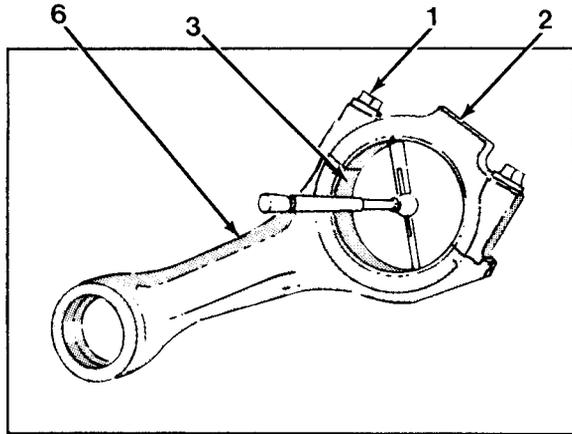
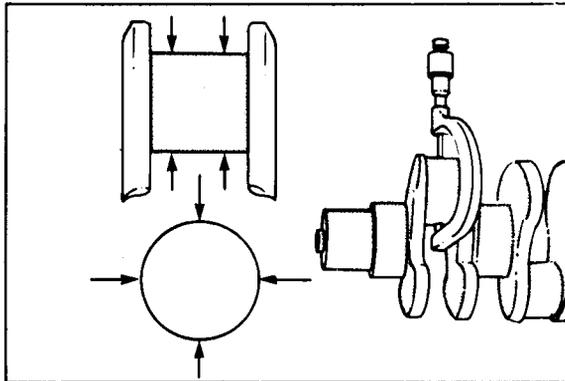

Figure 6-15
Figure 6-16
13. Install two bearing halves (3), connecting rod cap (2) and two connecting rod capscrews (1: on connecting rod (6, Figure 6-15). Torque two connecting rod capscrews (1) to 73 lb-ft (99 N•m).
14. Using an inside micrometer, measure crankshaft bore of connecting rod (6) and record smallest diameter.
15. Using a micrometer, measure and record average diameter of crankshaft connecting rod journal (Figure 6-16).